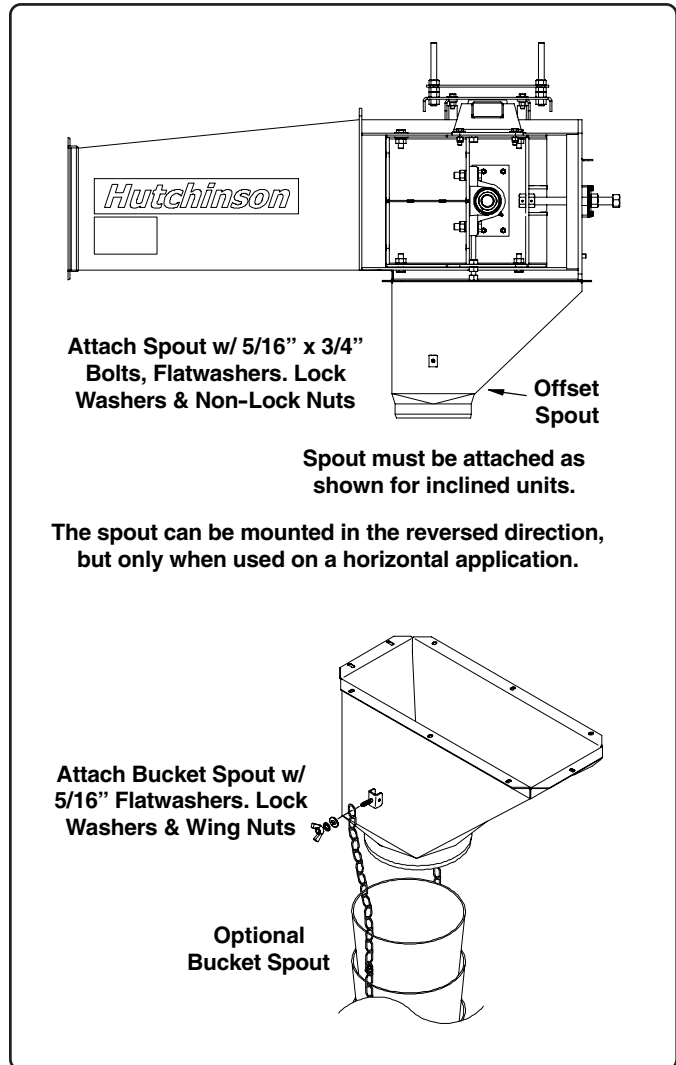

Fig. 13
**IMPORTANT! When installed on incline units, the adapter spout must be attached as shown in Fig. 13 for grain to discharge properly.**
Place the bucket spout snugly around the adapter spout, slip chain links over the mounting studs on adapter spout and secure with 5/16" flat washers, lock washers and wing nuts (See fig. 13).